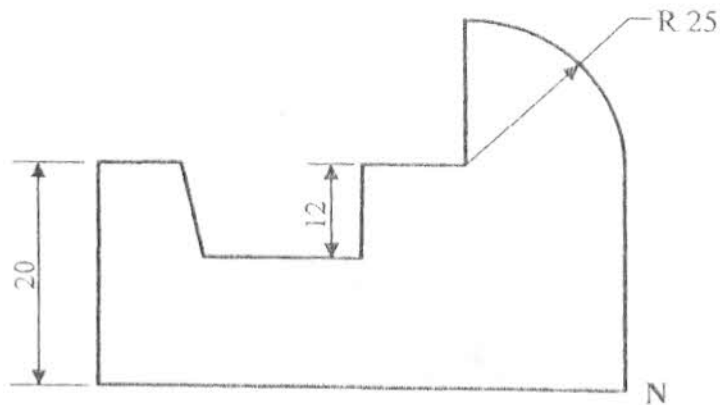

Fig. 3
8. Figure 3 shows two views of an object. Draw the isometric view of this casting making corner N as the lowest point.